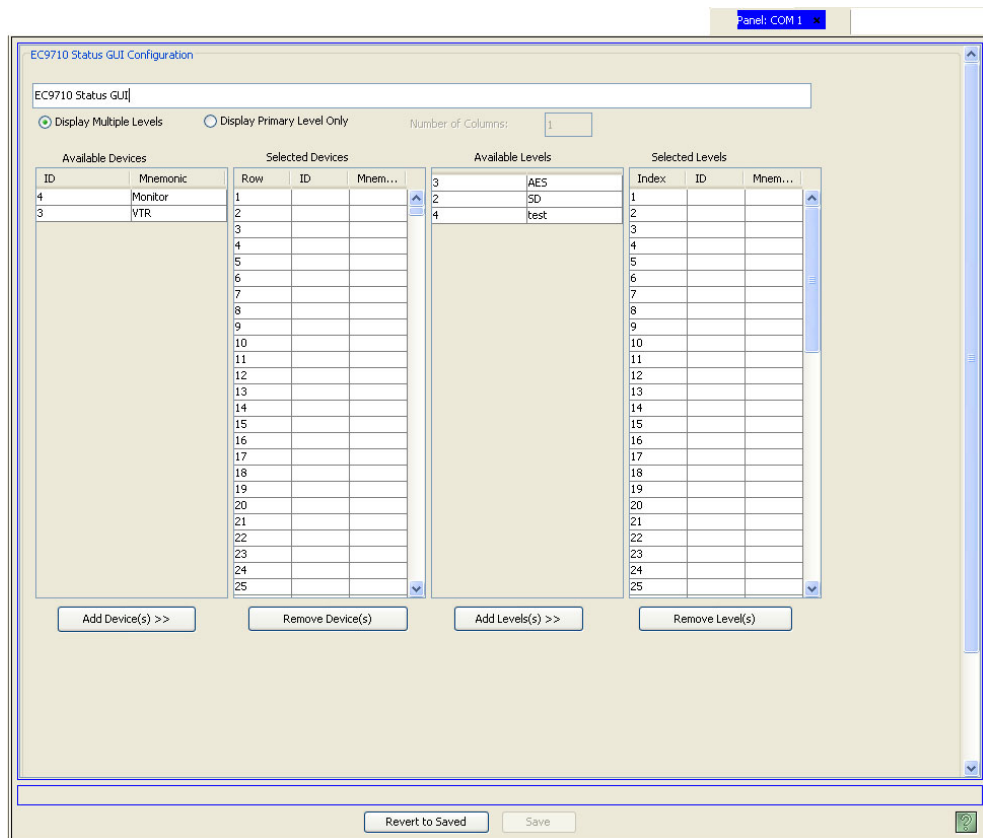

Figure 13-8. EC9710 Details Page
4 Click Add. The 'SW Panel Details' page appears, as shown in Figure 13-8.
If 'Display Multiple Levels' is selected, multiple levels can be displayed through the GUI and the 'SW Panel Details' page lists additional columns for levels, as shown in Figure 13-8.
- If 'Display Multiple Levels' was selected in step 6, select level sets. The 'Available Levels' section lists all level sets currently in the NV9000-SE system by 'ID' and 'Mnemonic'. (See Figure 13-8.) Select the row listing the level set you want to add and click Add Level(s). The level set is added to the first available row in the 'Selected Levels' table. Repeat until all level sets have been added. If a level set was added in error, select the row listing the level set to be removed and click Remove Level. For more information on level sets and adding them to the NV9000-SE system, see Level Sets on page 111.